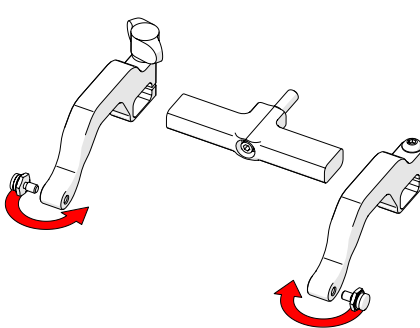

Fig. 131 - Position pivot buttons
15. Position the pivot buttons to the inside of the probe holder arms (Fig. 131).